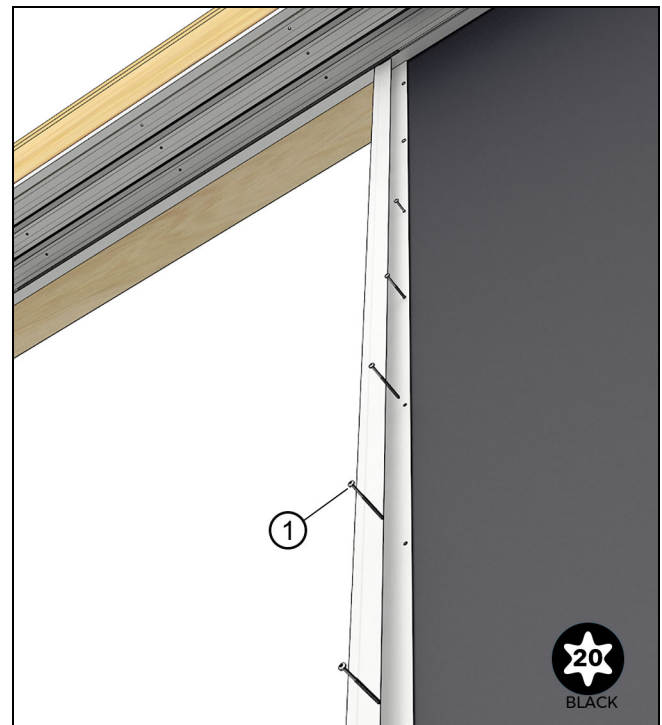

Figure 68
5. From the interior, attach the interlock to the blackout panel and framing with #10 x 3" (64) T-20 Torx installation screws provided. Figure 68.